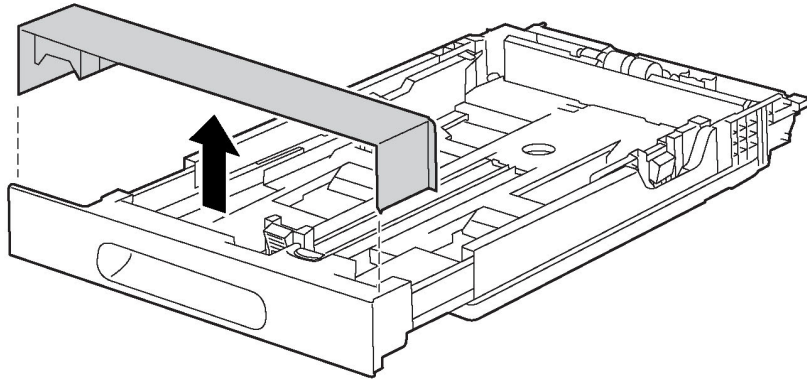

Figure 1 Remove the Legal Paper Tray Cover
2. Refer to Figure 1 to remove the Legal Paper Tray Cover.